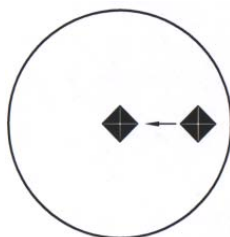

Figure 6-15 Image is on the right side of the center
4. The image is on the right side of the center. Refer to Figure 6-15.